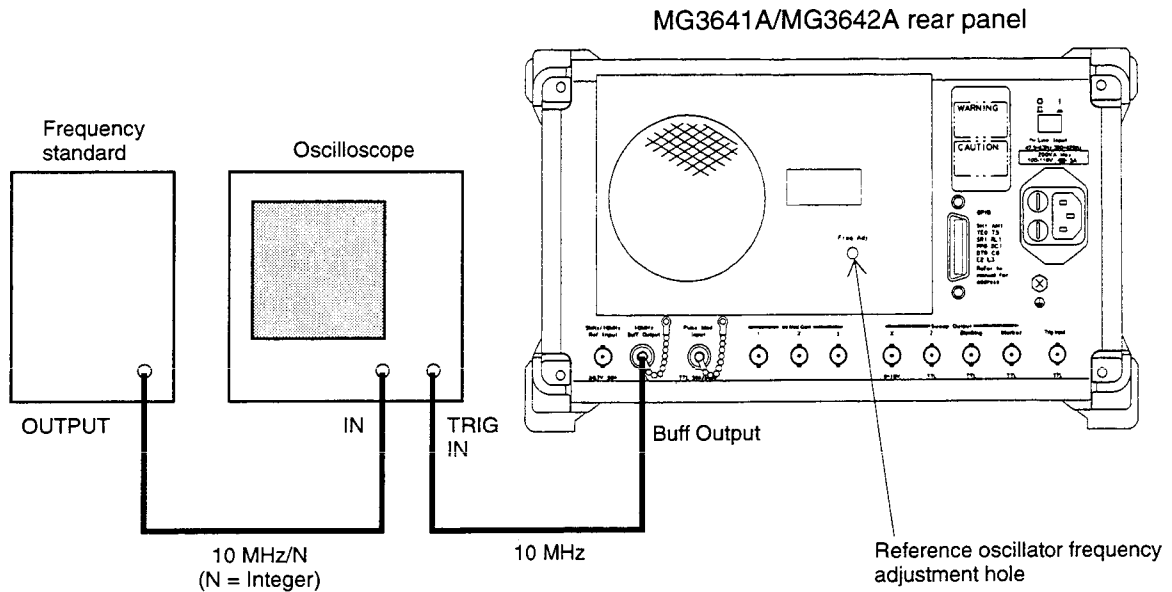

Fig. 8-1. Calibration of Reference Oscillator
1.	Setup the device at room temperature $23 \pm 5^\circ\text{C}$ . See Figure 8-1.
6.	The MG3641A/MG3642A is provided a Reference oscillator calibration hole on the rear. See Figure 8-1. Turn the potentiometer in the hole so that the input waveform on the oscilloscope does not move to the right or left.